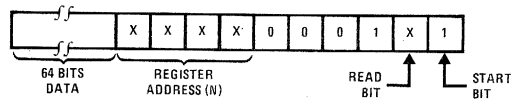

FIGURE 3a
- d) During a valid handshake, the data stream consists of: a start bit, a read/write bit, a 4-bit Delay, 4 register address bits and 64-bits of data as shown in Figure 3a. Data flows serially in or out of the MM57126, depending on the read/write command.